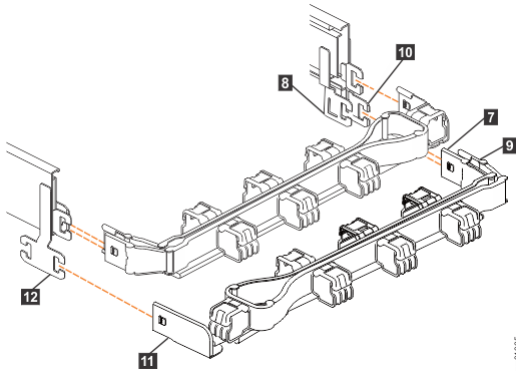

Figure 77. Comparing the location of the components of the CMA assemblies
Note: The procedure for attaching the lower CMA assembly is the same as the procedure to attach the upper CMA assembly. However, the connector locations are reversed. For comparison, Figure 77 on page 65 shows the upper and lower CMA assemblies as they are aligned to the support rails. The support rail connector of the upper CMA attaches to the right rail. The support rail connector of the lower CMA (11) attaches to the left rail.
5. Install the inner connector of the lower CMA assembly (**7**) to the inner member of the right support rail (**8**), as shown in Figure 77 on page 65.
6. Install the outer connector of the lower CMA assembly (**9**) to the outer member of the right support rail (**10**), as shown in Figure 77 on page 65.
7. Attach the support rail connector on the lower CMA assembly (**11**) to the connector on the left support rail (**12**), as shown in Figure 77 on page 65.